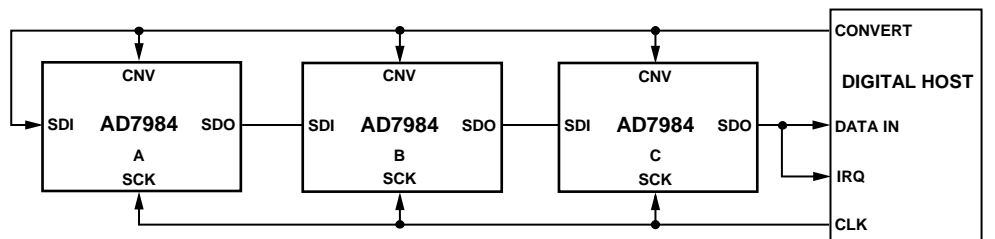
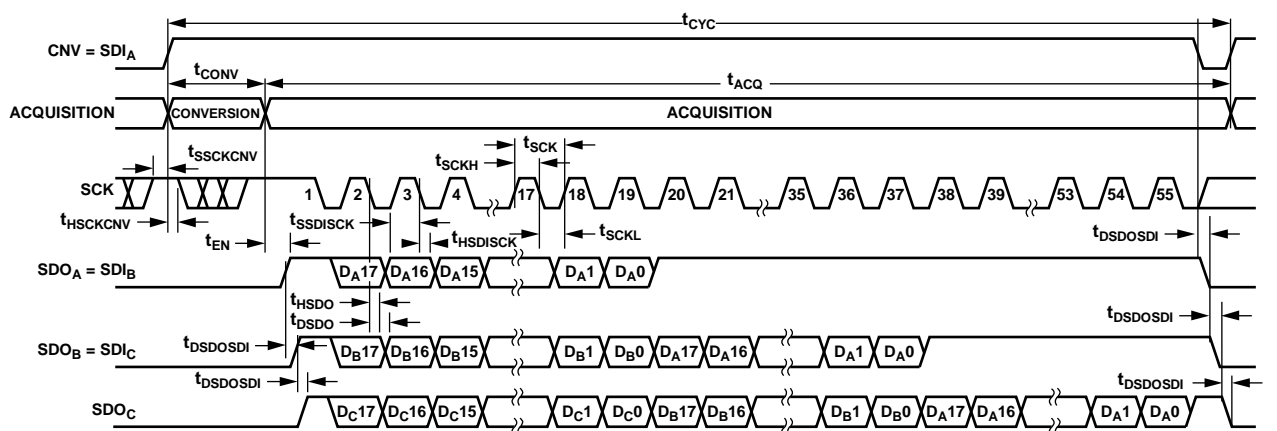

Figure 37. Chain Mode with Busy Indicator Connection Diagram
Figure 38. Chain Mode with Busy Indicator Serial Interface Timing
- In chain mode if SCK is high during the CNV rising edge (see Figure 38).
A connection diagram example using three AD7984s is shown in Figure 37, and the corresponding timing is given in Figure 38.
completed their conversions, the SDO pin of the ADC closest to the digital host (see the AD7984 ADC labeled C in Figure 37) is driven high. This transition on SDO can be used as a busy indicator to trigger the data readback controlled by the digital host. The AD7984 then enters the acquisition phase and goes into standby mode. The data bits stored in the internal shift register are clocked out, MSB first, by subsequent SCK falling edges. For each ADC, SDI feeds the input of the internal shift register and is clocked by the SCK falling edge. Each ADC in the chain outputs its data MSB first, and  $18 \times N + 1$  clocks are required to read back the N ADCs. Although the rising edge can be used to capture the data, a digital host using the SCK falling edge allows a faster reading rate and, consequently, more AD7984s in the chain, provided the digital host has an acceptable hold time.